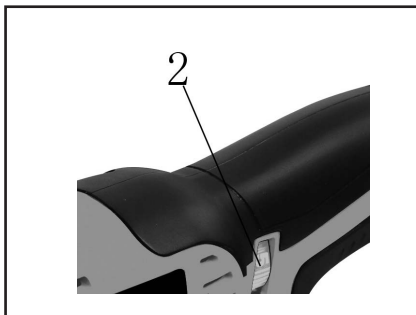

Fig. 6
The speed of the tool can be adjusted to run the tool at speeds varying between 10000 – 18000 RPM by rotating the speed control wheel (1) located towards the rear of the tool housing (Fig. 6)
3. Set the speed control wheel between 4 and MAX as outlined in Fig. 6